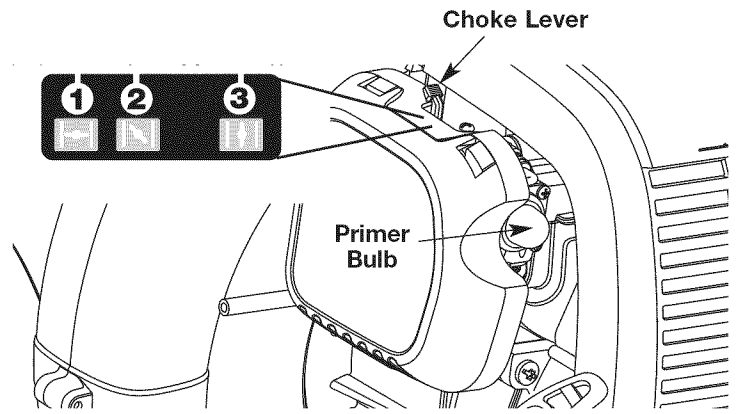

Fig. 15
3. Fully press and release the primer bulb 10 times, slowly. Some amount of fuel should be visible in the primer bulb and fuel lines (Fig. 15). If you can't see fuel in the bulb, press and release the bulb as many times as it takes before you can see fuel in it.
4. Place the choke lever in **Position 1** (Fig. 15).
6. Place the choke lever in **Position 2** (Fig. 15).
9. Place the choke lever in **Position 3** (Fig. 15). The unit is ready for use.